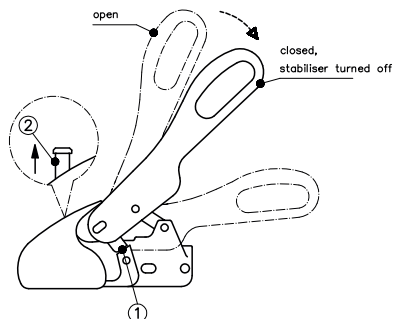

Fig. 4:
Please use the handles on the trailer and not the operating lever of the WS 3000/3500 when positioning the trailer. Place the open ball coupling on the vehicle's coupling ball (Fig. 4). The weight of the supported load (plus possible additional pressure) results in the drawbar closing the ball coupling automatically and the side securing plates (1) are positioned parallel to the securing surfaces on the housing (Fig. 4). The green pin in the control display (2) is visible if the coupling ball is located in the coupling housing (Fig. 4).
The trailer should be parked with the ball coupling closed if not being used for any greater length of time. To do so, raise the open operating lever (Fig. 4), simultaneously pull the ball